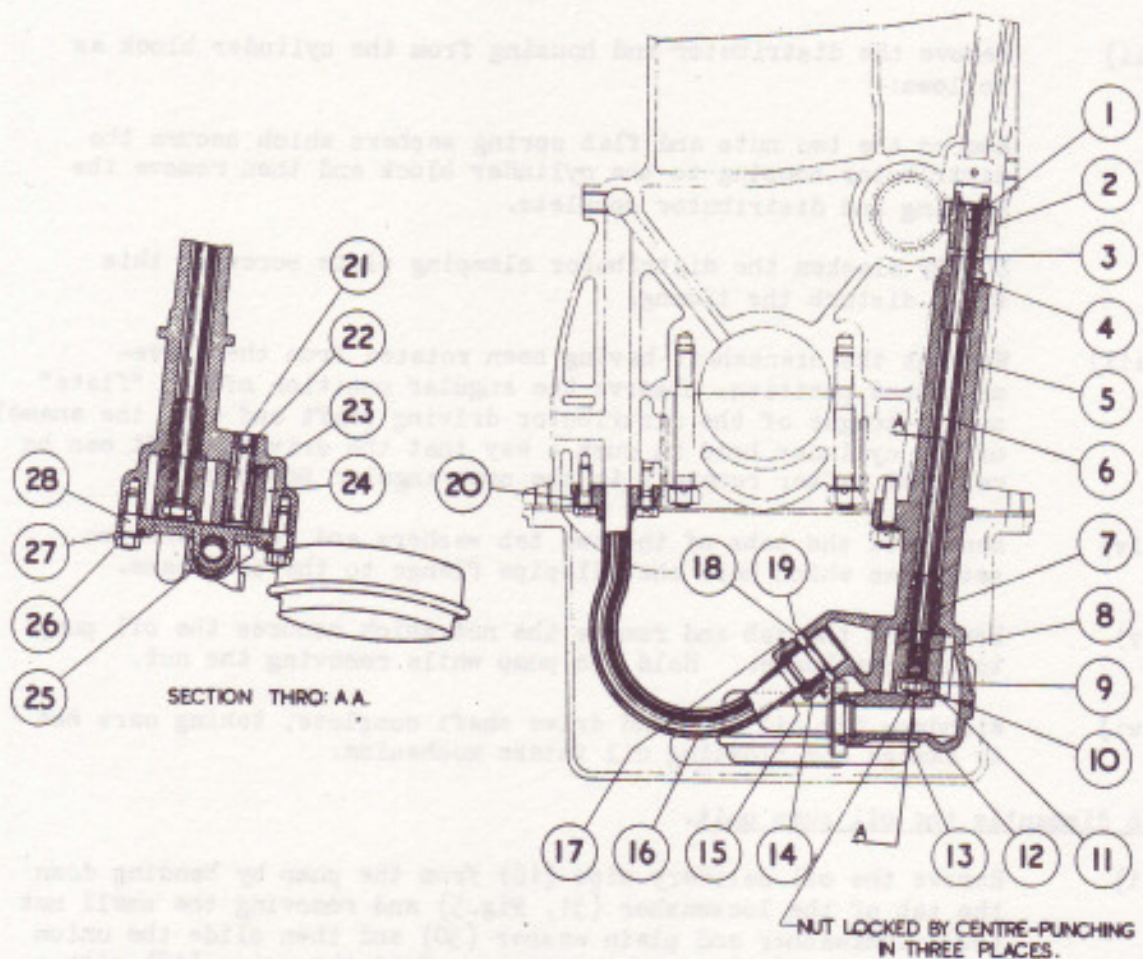
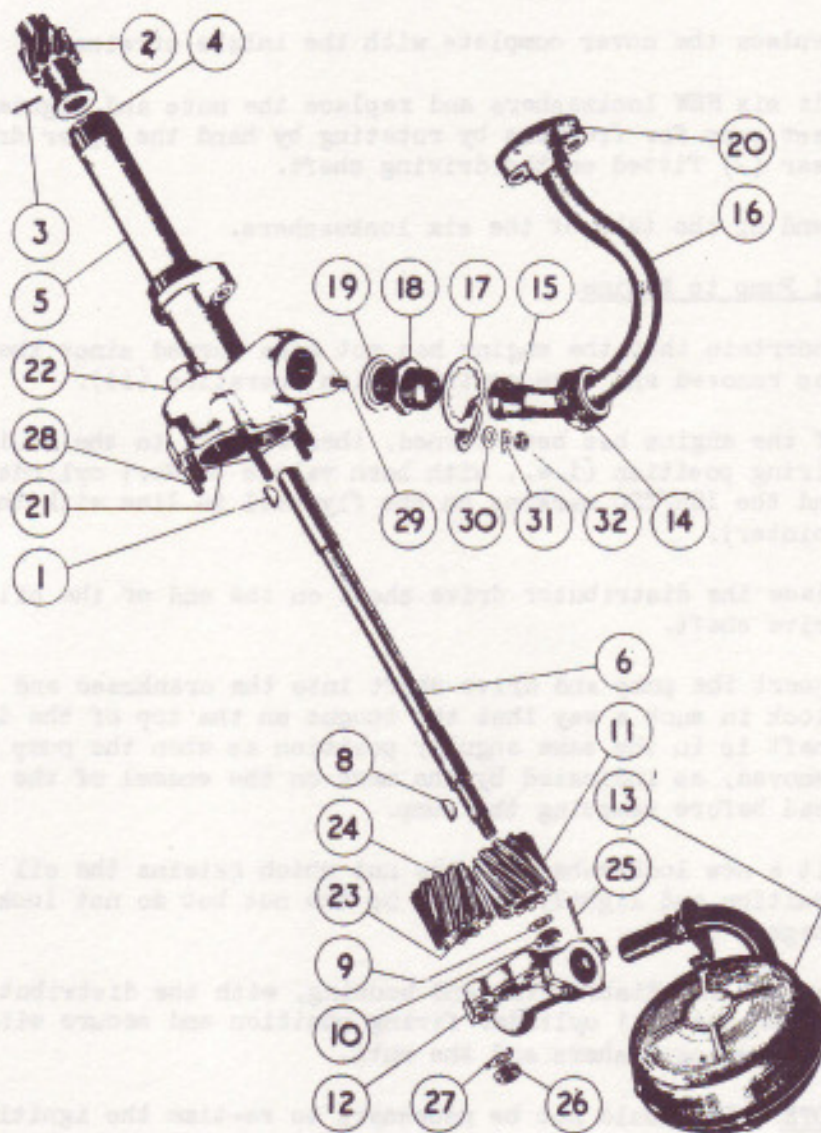

FIG. 4. SECTION THROUGH OIL PUMP AND DRIVE
FIG. 5. OIL PUMP AND DRIVE DISMANTLED.
A floating strainer (13, Figs. 4 and 5), consisting of a wire screen fixed to the lower face of a sheet metal dome with a sealed air compartment, is attached to the inlet on the oil pump cover (12).
The oil pump is shown in position on the engine in Fig.4, and in Fig.5 it is shown dismantled.
| 13. Pump float (Screened intake).  | 29. Stud (Fig. 5 only).         |
| 14. Union nut.                     | 30. Plain washer (Fig. 5 only). |
| 15. Nipple.                        | 31. Lockwasher (Fig. 5 only).   |
| 16. Oil delivery pipe.             | 32. Nut (Fig. 5 only).          |
- (i) Remove the oil delivery pipe (16) from the pump by bending down the tab of the lockwasher (31, Fig.5) and removing the small nut (32), lockwasher and plain washer (30) and then slide the union locking plate (17) on to the pipe. Hold the union (18) with a spanner and slacken off the union nut (14) with a second spanner and remove the pipe.
- (ii) Bend down the tabs of the lockwashers (27) and remove the six nuts (26) and then take off the oil pump end cover (12) complete with the floating intake strainer (13).
- (iii) Remove the driven oil pump gear (24). (This will fall out if the pump is inverted).
- (i) Slacken off the union nut of union 13, (Figs. 5 & 6) holding the union with one spanner while slackening the nut with a second spanner. (This is necessary in order to avoid twisting the pipe). It will be advisable to slacken off a few turns the cap nut as fitted to the side of the "General" By-Pass Filter so as to partially free the oil pipe.
- (ii) Unscrew the "banjo" connection bolt (5) and remove together with the two joint washers (6).